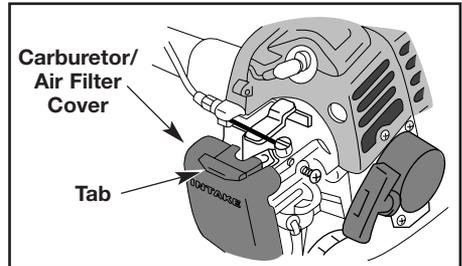

Fig. 21
1. Remove the carburetor/air filter cover by pushing on the tab on top of the cover (Fig. 21).